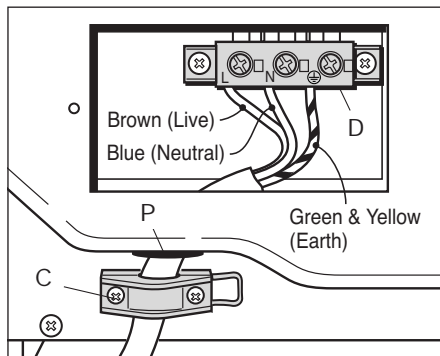

Fig. 1.2
- Remove the screws C from the cable clamp (fig. 1.2).